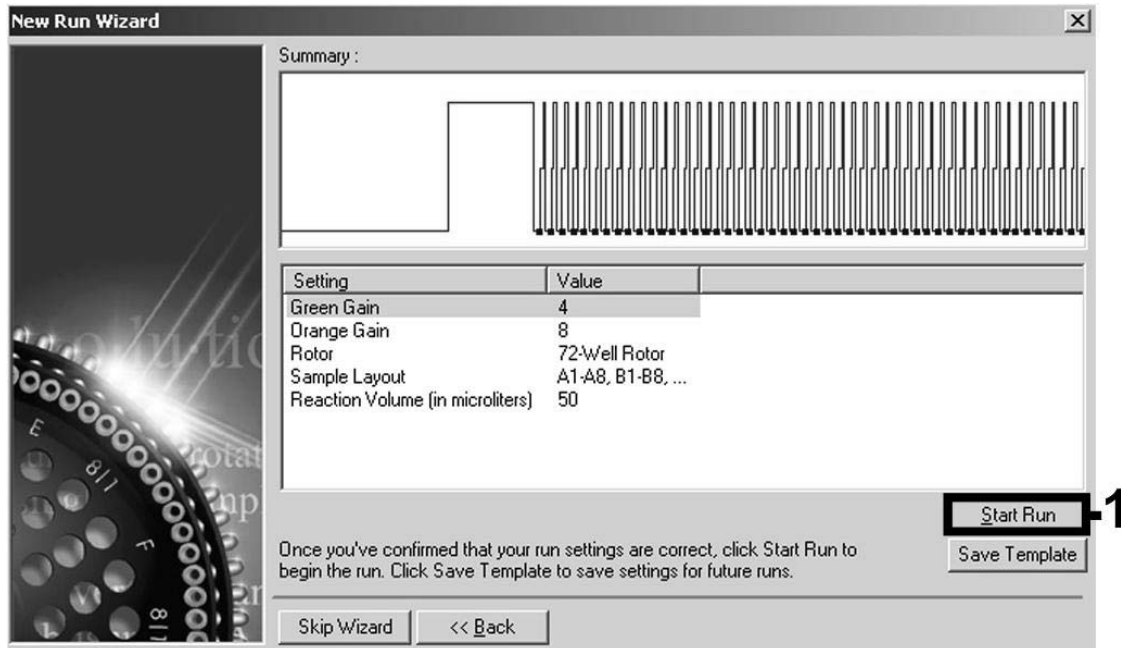

Figure 7. Starting the run.
Starting the run	Figure 7
10. The gain values determined by the channel calibration are saved automatically and are listed in the last menu window of the programming procedure (Figure 7). Click “Start Run”.